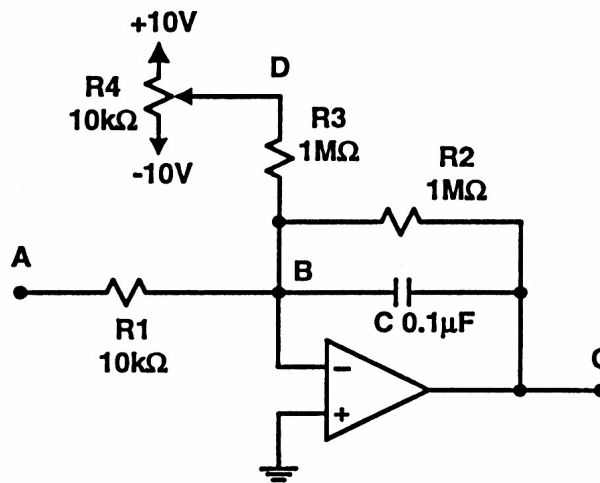

Figure 3: Compensated Integrator.
For the op amp described in above, installed in the circuit of Fig. 3, find the value of V_D that establishes $V_C = 0$ for $V_A = 0$, assuming that the negative input has the higher inward-directed biasing current.
- The output of the integrator in Fig. 3, using a 100 nF capacitor, is observed to move linearly from a rest state of -3 V at time 0, to a final state of $+5$ V, 100 μ s later. Describe the input signal that must have been applied.
- **Setup:** Assemble the circuit in Fig. 3 using $\pm 10\text{ V}$ supplies with $R_1 = 10\text{ k}\Omega$, $R_2 = 1\text{ M}\Omega$, $R_3 = 1\text{ M}\Omega$, $R_4 = 10\text{ k}\Omega$, and $C = 0.1\text{ }\mu\text{F}$.
- **Setup:** Use the circuit as shown in Figure 3 with compensation adjusted as in 5.2.1. Connect a function generator to input A.